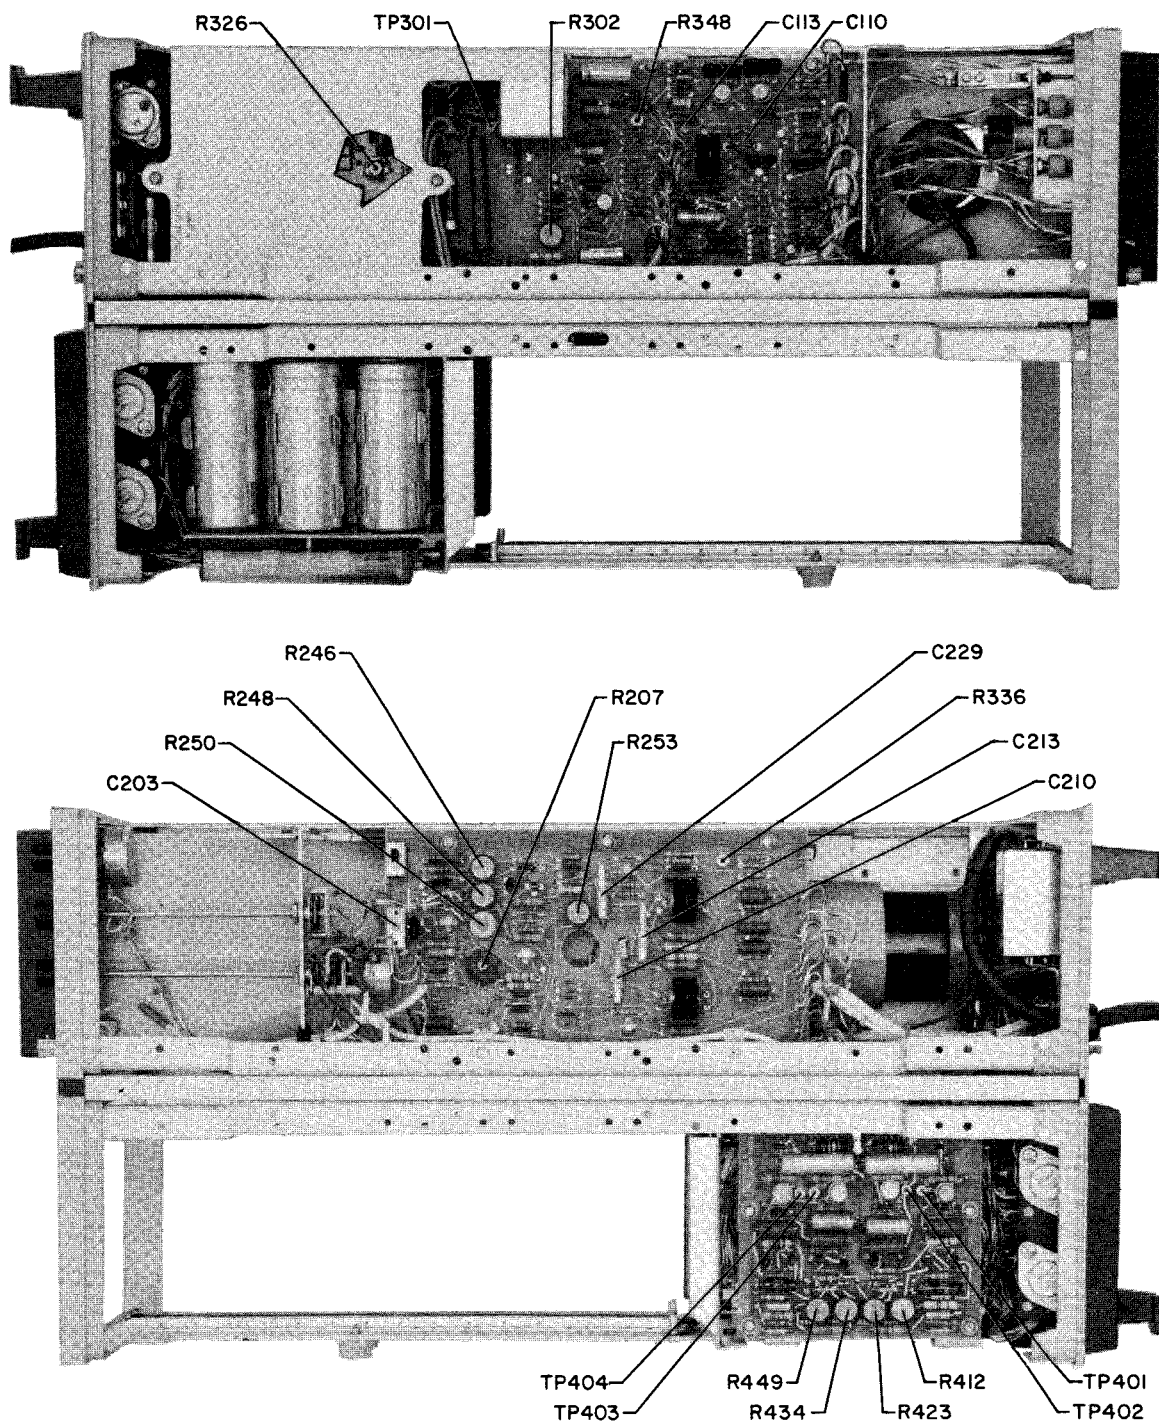

Figure 5-2. Oscilloscope Assembly Adjustments and Test Points
b. LOW VOLTAGE POWER SUPPLY ADJUSTMENT. - The low voltage power supply adjustment and test points are shown in figures 5-2, 5-19 and 5-30.
(1) TEST EQUIPMENT. - Digital Voltmeter, Model 3440A with 3441A.
(2) TEST SETUP.
c. HIGH VOLTAGE POWER SUPPLY ADJUSTMENT. - The high voltage power supply adjustment and test points are shown in figures 5-2, 5-13 and 5-30.
(1) TEST EQUIPMENT.
e. INTENSITY LIMIT ADJUSTMENT. - The intensity limit adjustment is shown in figures 5-2, 5-17 and 5-30.
(1) TEST SETUP.
f. FLOOD GUN ADJUSTMENT, - The flood gun adjustment is shown in figures 5-2, 5-13 and 5-30.
g. TRACE ALIGNMENT. - The trace alignment adjustment is shown in figures 5-2, 5-15 and 5-30.
h. GATE AMPLIFIER RESPONSE ADJUSTMENT. - The gate amplifier response adjustment and test points are shown in figures 5-2, 5-13 and 5-30.
(a) Connect Test Oscilloscope through a 10:1 Divider Probe to collector of Q103. (See figures 5-2 and 5-13).
i. HORIZONTAL AMPLIFIER DC BALANCE ADJUSTMENT. - The horizontal amplifier dc balance adjustment is shown in figures 5-2, 5-15, and 5-30.
j. HORIZONTAL AMPLIFIER VERNIER BALANCE ADJUSTMENT. - The horizontal amplifier vernier balance adjustment is shown in figures 5-2, 5-15 and 5-30.